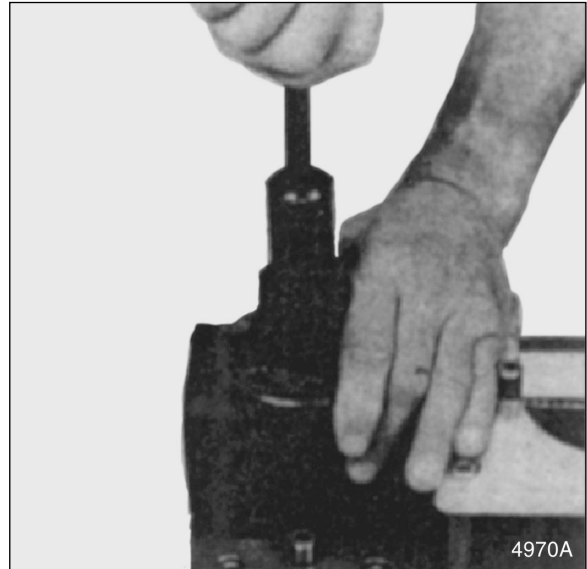

Figure 40
10. Insert assembly tool down into bore of steering unit. See Figure 40.